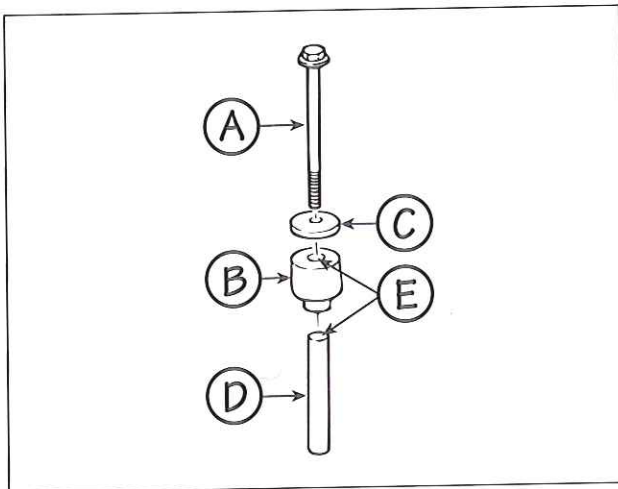

FIG. 39
1. Lubricate the valve cover limiting sleeves (D) with clean silicone spray. Insert the sleeves into the isolators (B) until the end of the sleeve is flush with the isolator (E) (see Fig. 39).
2. Install the hold-down bolts (A), with washers (C) installed, to the limiting sleeves (D).
3. Install the hold-down bolt assemblies (A, B, C, D) to the rocker cover base (F), and thread the bolts two to three threads into the cylinder head.